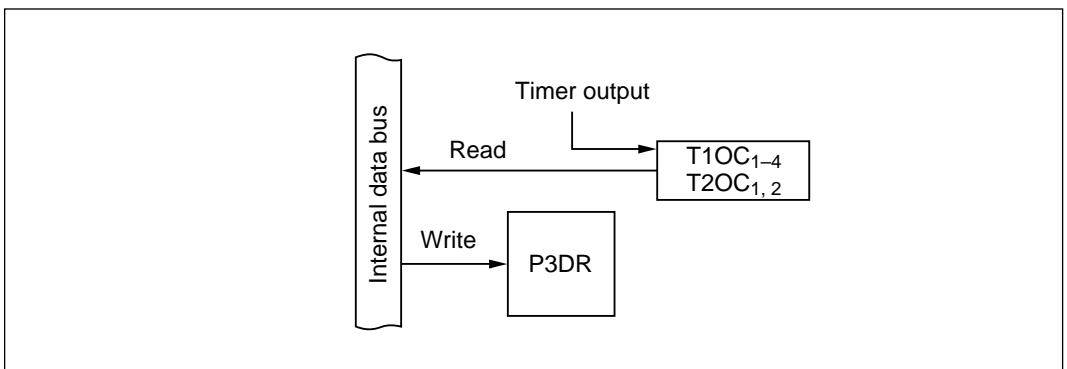

Figure 10-19 Timer Output Pins (Modes 1 to 7)
(3) Timer Output Pins (Modes 1 to 7): Figure 10-19 shows a block diagram illustrating the timer output function. Table 10-14 indicates register read/write data. When a pin in port 3 is used for timer output, the setting in the port 3 data direction register (P3DDR) is ignored. The value in the port 3 data register (P3DR) has no effect on the timer output. When read, P3DR returns the timer output level (T1OC₁ to T1OC₄, T2OC₁, or T2OC₂).